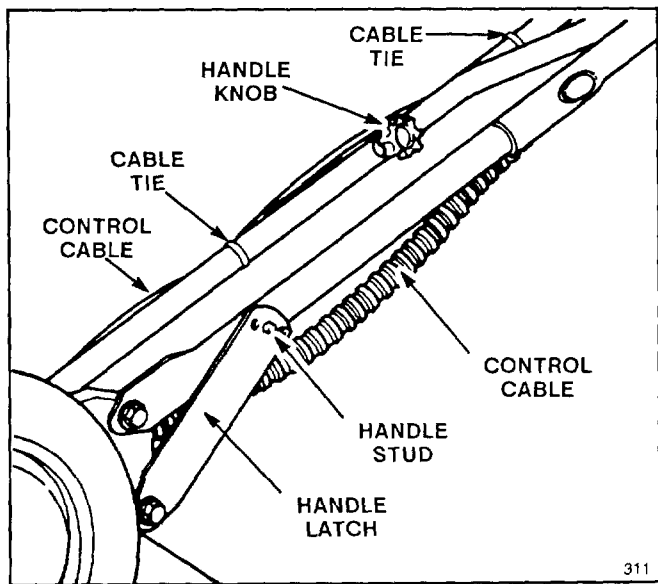

Figure 1
1. Align handle and tighten handle knobs (Fig. 1). Move handle latches slightly outward so they will not be in the way when pivoting the handle backward into the operating position (Fig. 1).
2. Pivot handle backward. Move handle latches inward while snapping handle stud into center hole of handle latch (Fig. 1). If a handle latch does not fit tightly against the handle tube, remove latch from handle stud, bend the latch inward, and reattach to handle stud. Repeat as necessary to ensure a tight fit between latch and handle.
3. Ensure control cables (Fig. 1) are to the rear and inside of handles. Secure cables to handle with cable ties. Tighten handle knobs securely.
Note: If handle height is not satisfactory, adjust by placing handle stud (Fig. 1) into a different hole.